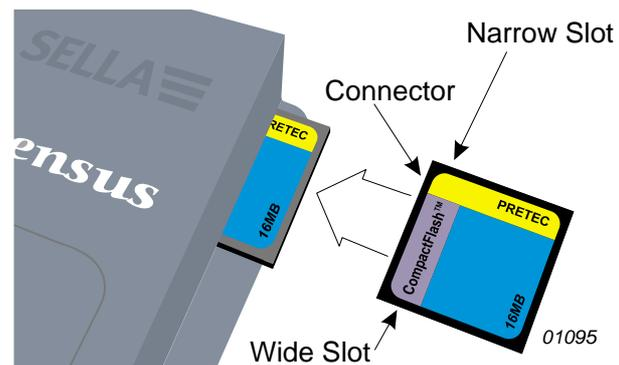

Figure 3: Installing a CompactFlash card
12. When data is to be stored on a CompactFlash™, check that a card is present in the slot in the right hand panel of the Sensus Data Logger. If no card1 is present, insert one as shown in Figure 3.